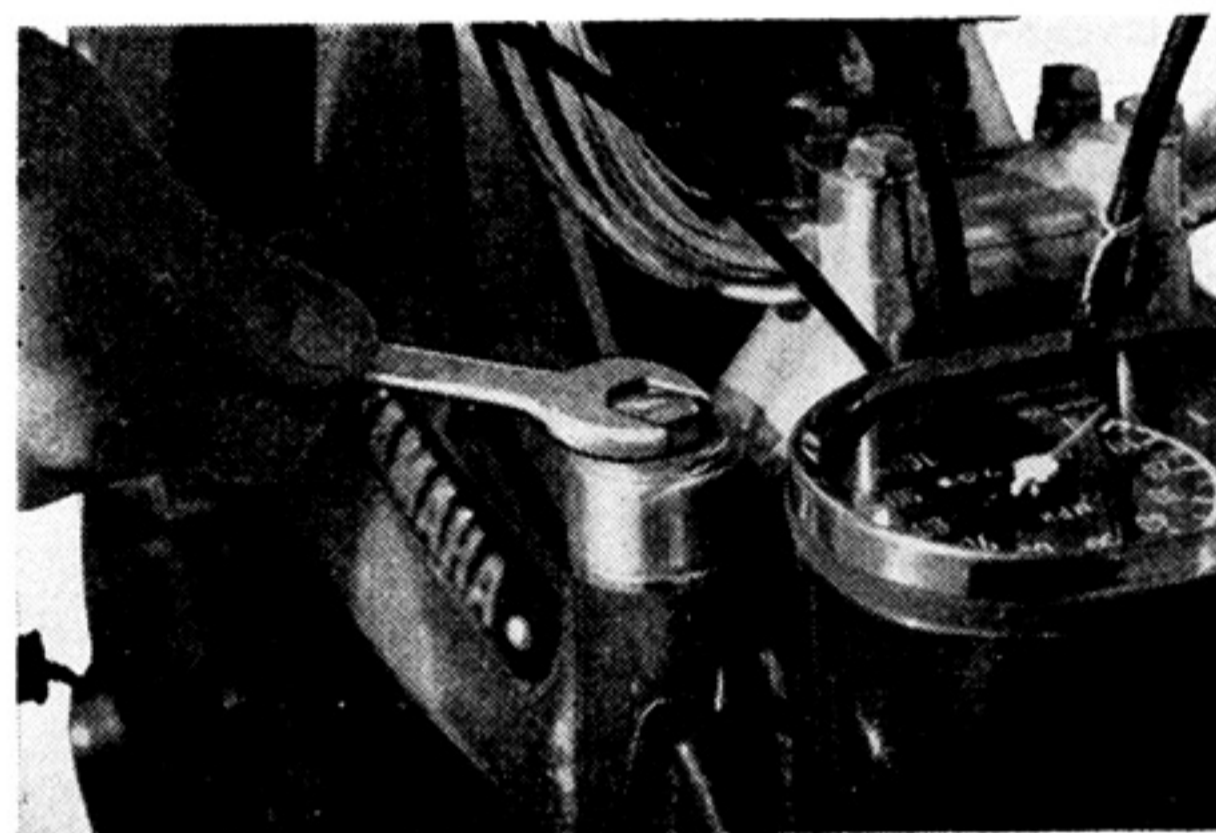

Fig. 4-5-9
3) Install the inner tube mounting bolt, and tighten it. (Fig. 4-5-9)